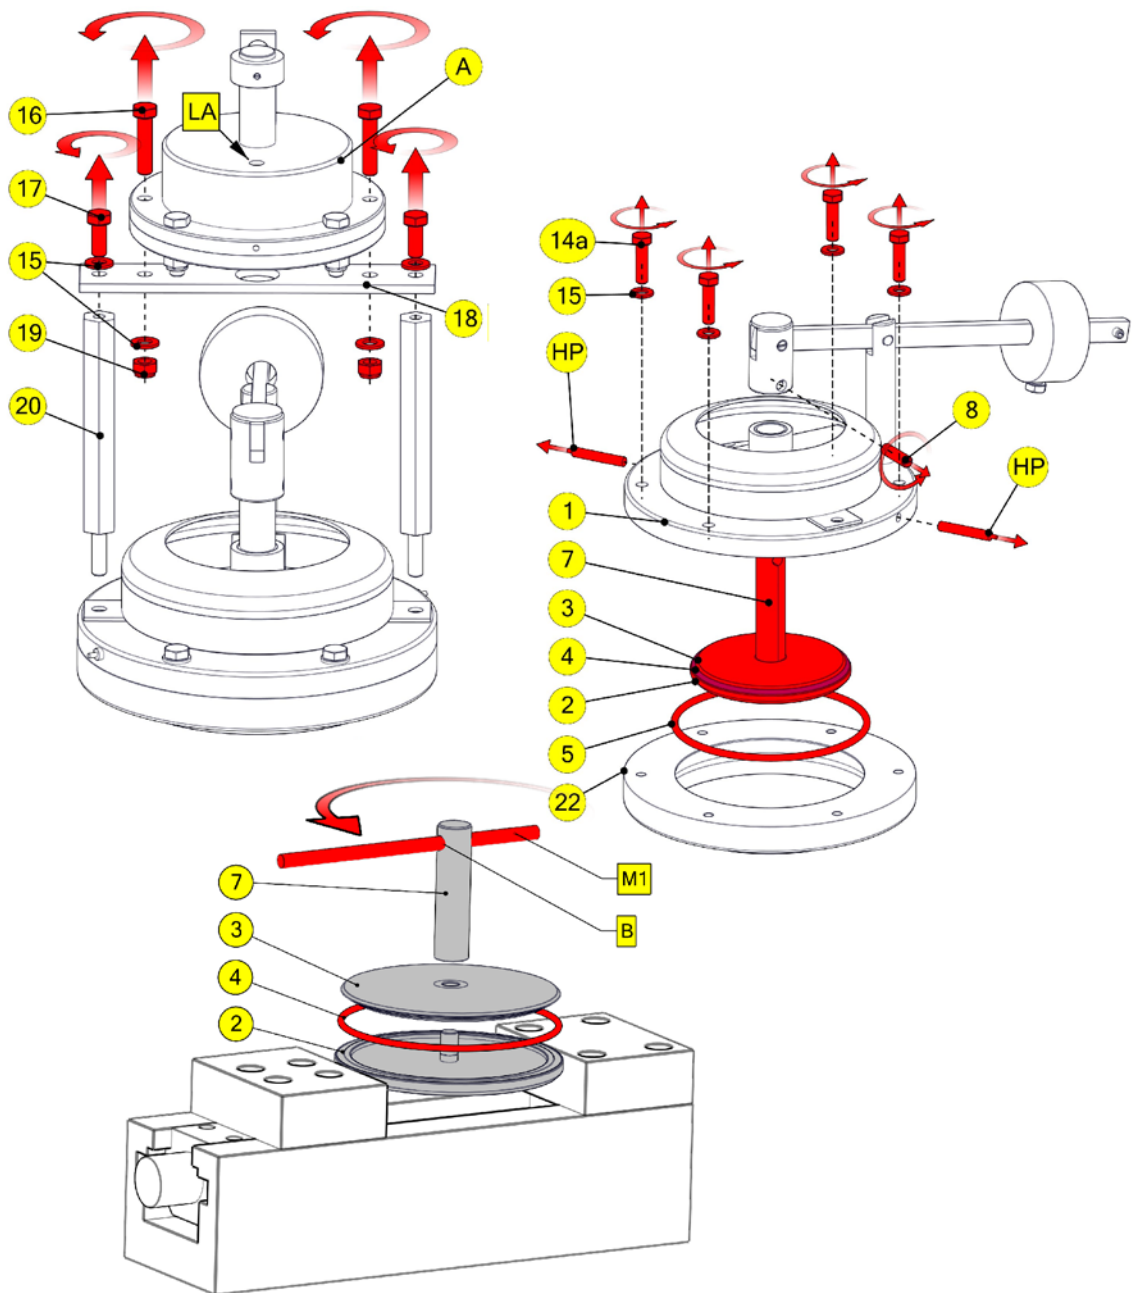

Fig. 1
- Fig. 1
- Remove the control air (LA) from the actuator (A).
- Unscrew the hexagon screws (16) and (17). Remove actuator (A) and plate (18).
- Unscrew the bolts (20) and screws (14a).
- Remove the complete valve and dismount the O-Ring (5).
- Unscrew the set screw (8) and remove the complete valve plate from the housing (1)
- Clamp the complete valve plate at the outer diameter of plate (2) in the vise (with soft jaws).
- With a round rod M1 ( $\varnothing 6$ ), in the drilled hole (B), unscrew the bolt (7).
- Remove the O-ring (4) from the groove.
- Thoroughly clean of grease the thread in the plate (2) and bolt (7).